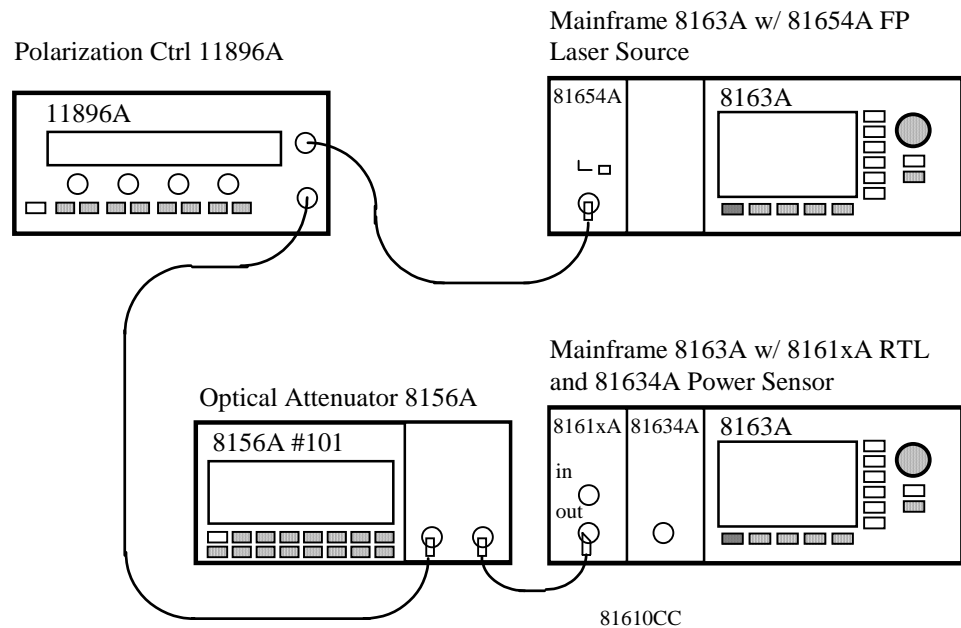

Figure 43 81610CC Reference Cable - Setting the Calibration Reference
- 9 Moving the cable as little as possible, disconnect the 81610CC Reference Cable from the Power Sensor module, and connect it to the output of the Return Loss module as shown in Figure 43